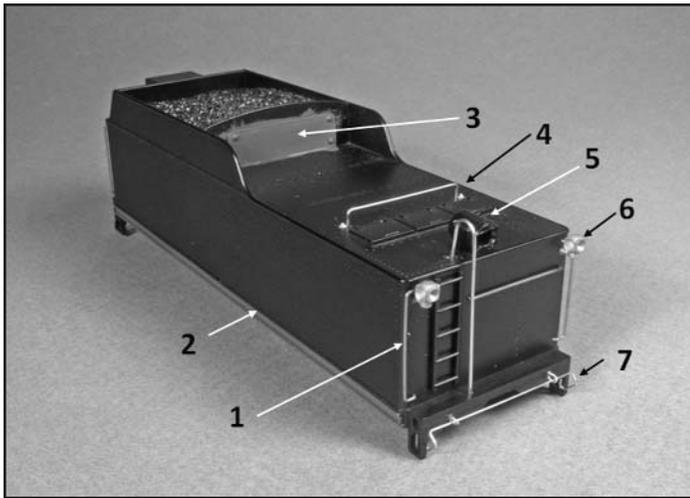

Figure 6 – Tender Details
Additions to the tender were rather minor. As shown in Figure 6, there are two vertical handrails (1) and a horizontal grabiron installed on the tender by AM. I added a strip of Plastruct 'C' channel (2) to the bottom edge of the tender body to simulate the frame and add some texture and I closed off the opening in the back of the coal bunker with styrene (3). I added a railing made of .020 wire near the water hatches (4) and aused the AM headlight as a tender mounted light (5). As with the boiler front, brass marker lamps (6) replaced the plastic AM units. I added a railing for the ladder (7) made from .032 wire and a cut lever (8) made of .020 wire. I later